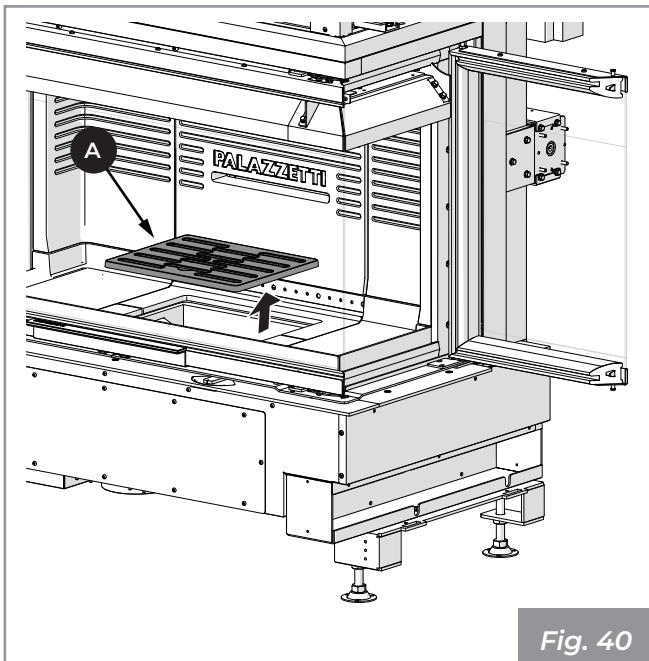

Fig. 40
- 1) Make sure that the grate (A) (**Fig. 40**) is free from any combustion residues that may obstruct the free passage of air. Remove it and clean the fire box using a hand brush (not supplied) conveying the combustion residues into the ash drawer. Pay attention to any burning embers.